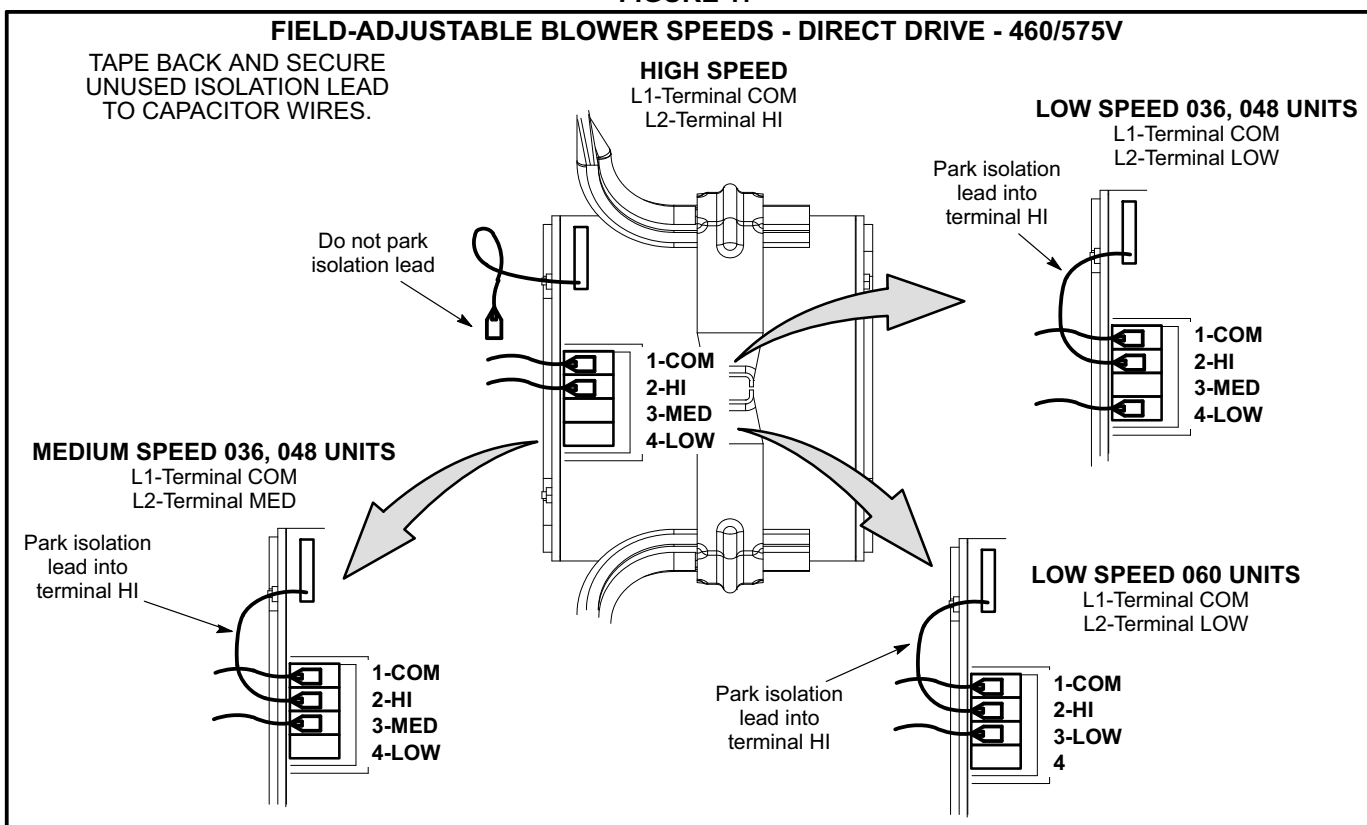

**FIGURE 16**
- 3- Use figure 16 to determine the factory set blower speed.